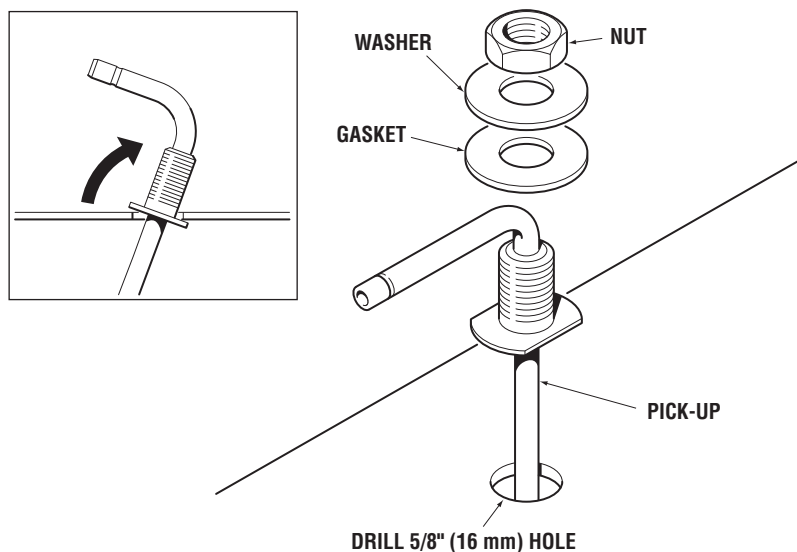

Figure 19. Fuel Pick-Up
- Fuel pick-up to be installed in a hole drilled into the fuel tank with a step drill (refer to figure 19).